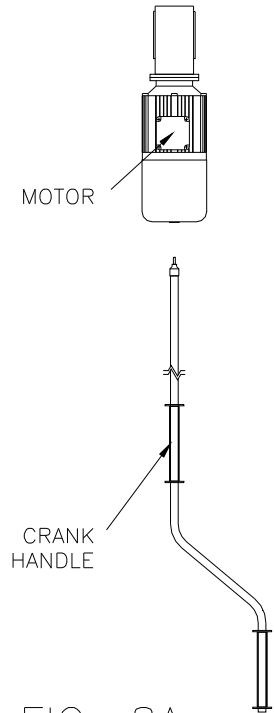

FIG. 8A
- a. **Align Motor Output Shaft keyway** with Fabric Roll Shaft keyway (Figure 8a).